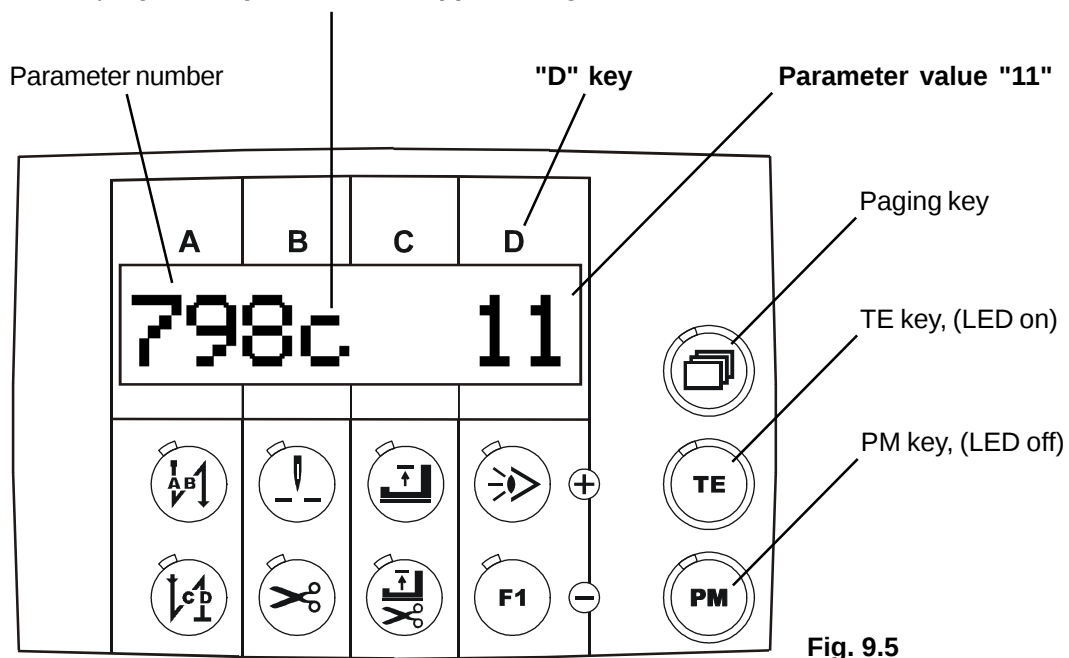

Fig. 9.5
- Use the **D+** or **D-** keys to enter **parameter value "11"**, Fig. 9.5
- "**c**" = programming level "**c**" then appears, Fig. 9.5